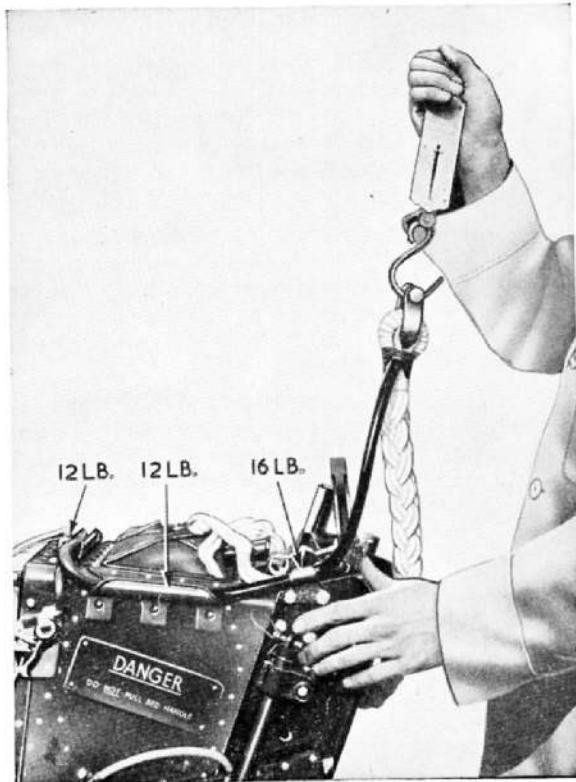

Fig. 13. Testing the lifting lines
- (2) Connect a spring balance to the drogue shackle and pull upwards. The lifting lines should not pull out of the first clip until the scale registers 16 lb. as indicated in fig. 13 and 12 lb. for the remaining clips. A tolerance of ± 2 lb. is permissible, and any necessary adjustments may be made by gently opening out or closing in the clips as appropriate.